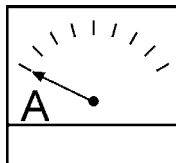

Figure 44. Ammeter (No Load)
7. The ammeter (Figure 44) will indicate **zero amps** with no load applied. When a load is applied, the ammeter will indicate the amount of current that the load is drawing from the generator.